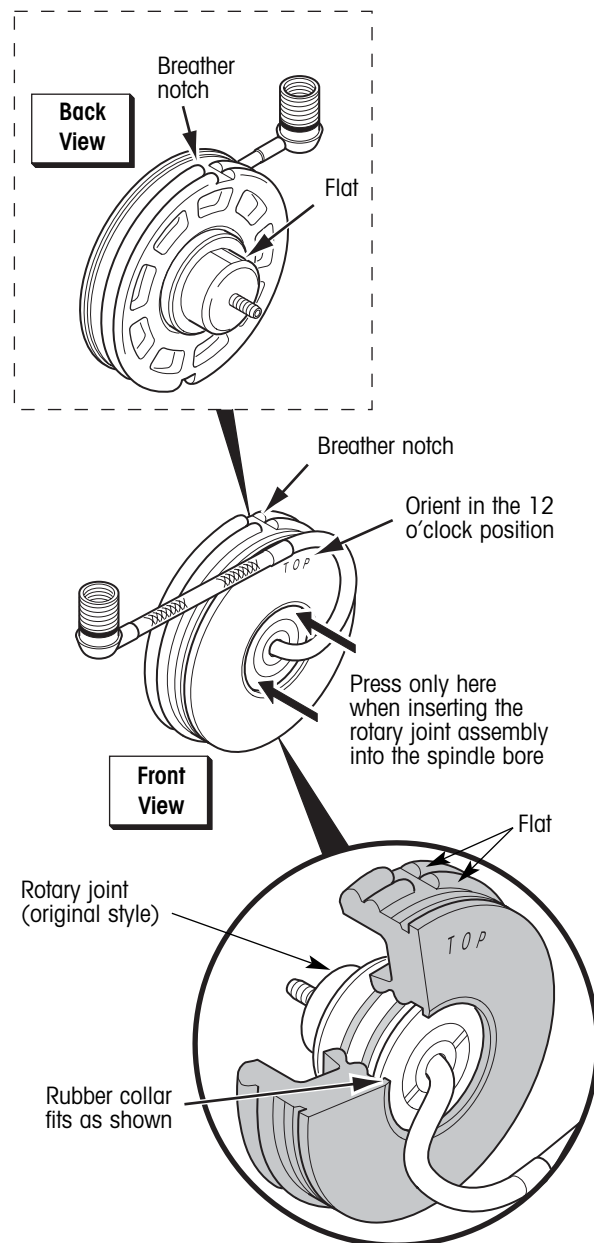

Figure 38. Original style rotary joint assembly
1. If necessary, install the rotary joint in the rubber collar. Align the breather notch in the rubber collar with the flat on the rotary joint (figure 38).
⚠ CAUTION: When inserting the rotary joint assembly into the spindle bore in the next step, do not push on the steel air tube. Carefully push only on the face of the rotary joint where it meets the rubber collar (figure 38).
the rotary joint body. Orient the flat on the rotary joint body (located near the clamp) to the 12 o'clock position and press the rotary joint assembly into the spindle bore. The assembly is seated when the outer edge is almost flush with the end of the spindle (figure 38).